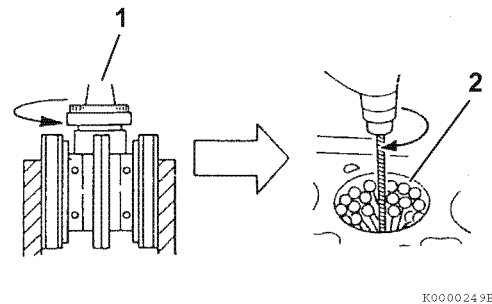

Figure 6-84
2. **Honing** - Minor cylinder imperfections may be corrected by using a rigid cylinder hone (Figure 6-84, (1)). Be sure not to exceed the maximum cylinder bore specification.
Deglazing - A used cylinder that did not require boring or honing, should always be deglazed with a ball hone (Figure 6-84, (2)) before installing new piston rings. This will properly prepare the cylinder surface to allow new piston rings to seat properly.
- Use a 300-grit hone at 300 - 1200 min⁻¹ (rpm) (Figure 6-84).